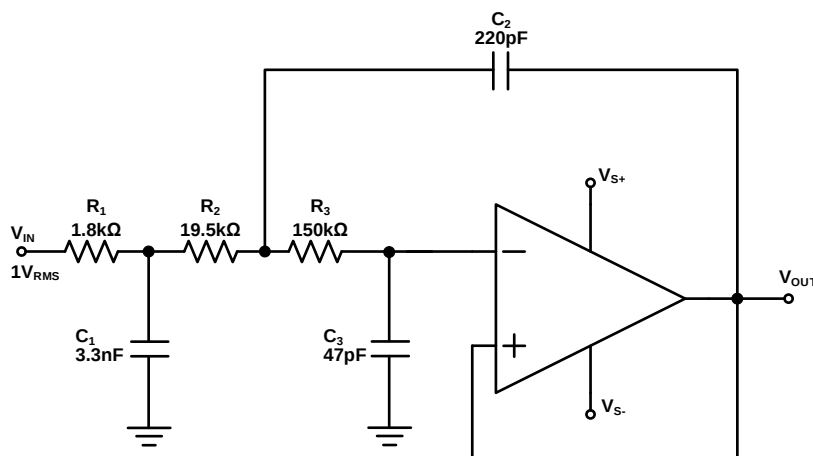

Figure 20. Configured as a Three-Pole, 20KHz, Sallen-Key Filter
3. using a non-inverting filter topology, such as the Sallen-Key (shown in Figure 20).